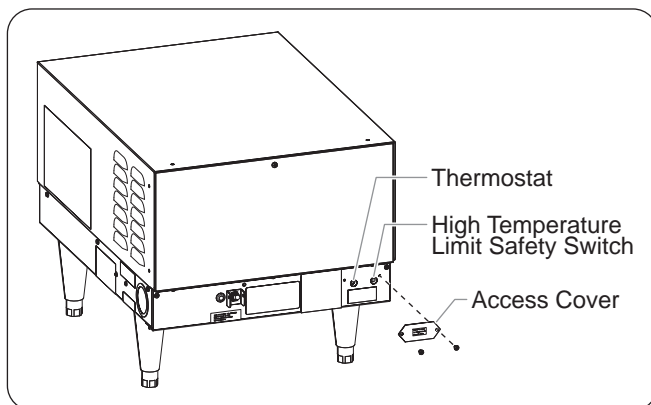

Figure 11. Access Cover for Thermostat and High Temperature Limit Safety Switch
1. Remove the access cover (see Figure 11).